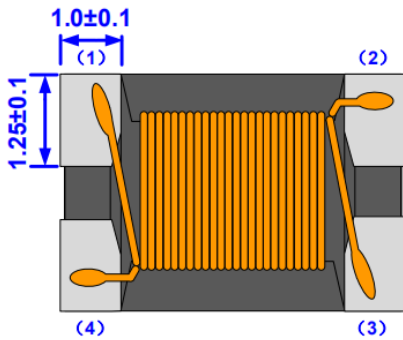

Fig.4-3
①	Lid	Ni-Zn Ferrite
②	Epoxy	Epoxy resin
③	Wire	Polyurethane system enameled copper wire
④	Core	Ni-Zn Ferrite
⑤	Electrode structure	Ag+Ni+Sn plating
- 4.2 Dimensions: See Fig. 4-3.